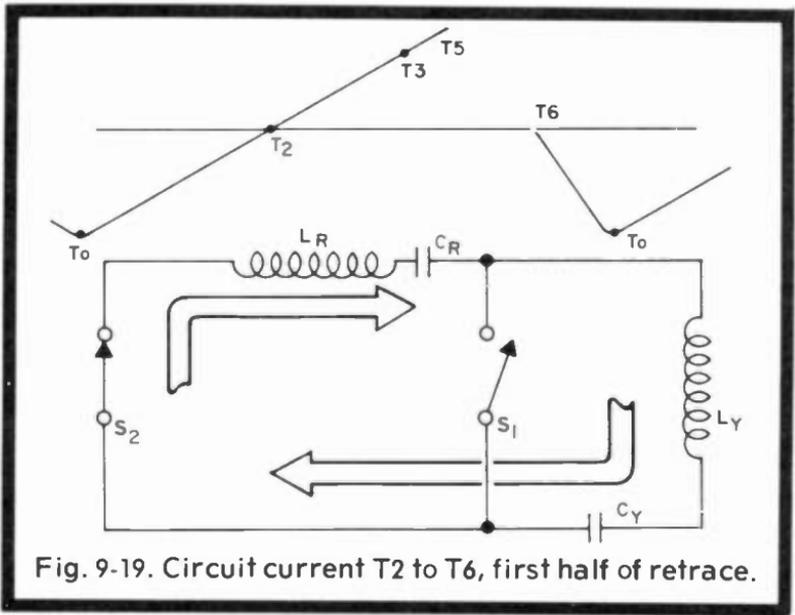
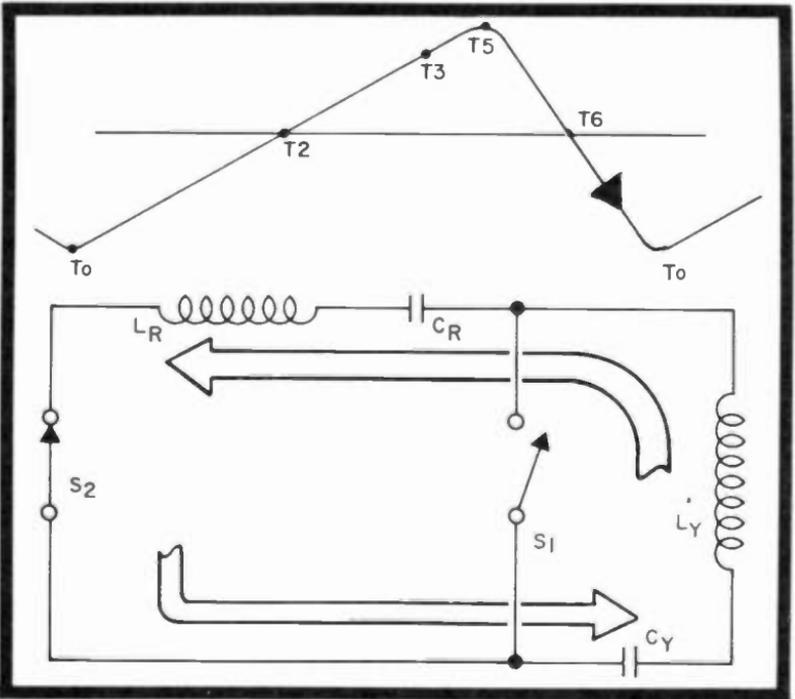

Fig. 9-19. Circuit current T2 to T6, first half of retrace.
Fig. 9-20. Circuit current T6 to T0, second half of retrace.
**Retrace:** The simplified retrace circuit with  $S_2$  closed and  $S_1$  open is shown in Fig. 9-19. Basically,  $L_R$ ,  $C_R$ ,  $C_Y$ , and  $L_Y$  are connected in series. The natural resonant frequency of this circuit is much greater than that of the yoke circuit,  $L_Y$  and  $C_Y$ . As a result, the current change through the yoke windings  $L_Y$  during retrace time is much faster than that during trace time. This, of course, causes the picture tube beam to retrace (flyback) very rapidly.
During the first half of the retrace time ( $T_5$  to  $T_6$ , Fig. 9-19), the retrace yoke current flows in the direction as shown at time  $T_6$ ; however, the retrace circuit current reverses because of resonant circuit action (Fig. 9-20), and the last half of the retrace action occurs ( $T_6$  to  $T_0$ ).